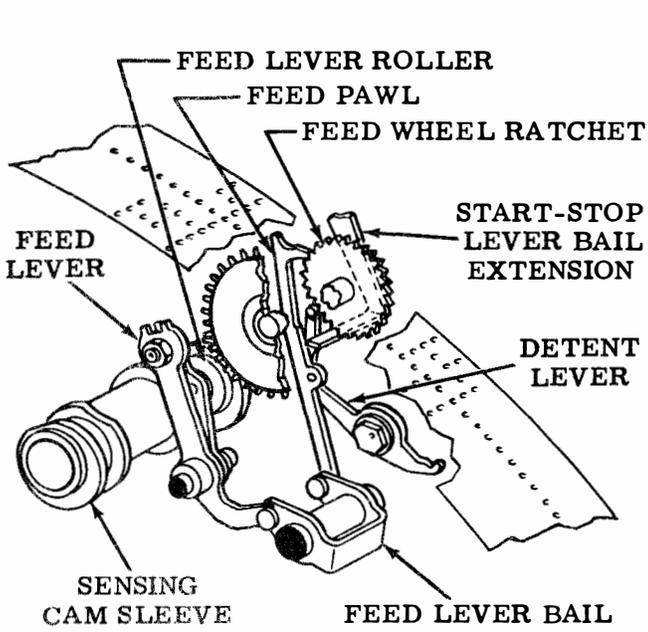

Figure 17 - Tape Feed Mechanism
9.01 At approximately 250 degrees of sensing cam rotation, the sensing cam sleeve through a mechanical linkage (Figure 17), causes the feed pawl to engage the feed wheel ratchet and rotate the feed wheel. Pins on the feed wheel engage the feed holes and advance the tape one character. A detent lever engages the ratchet and holds the feed wheel and the tape in position for the next sensing cycle.
10.02 Positioning the start-stop lever in the FREE position causes the sensing clutch trip magnet circuit to open (as in 10.01 and also, by moving the tape feed pawl away from the feed wheel ratchet, permits the tape feed wheel to rotate freely (Figure 17).